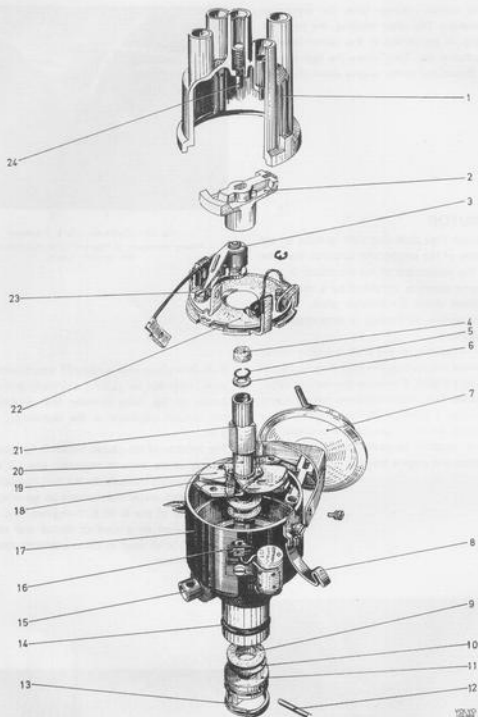
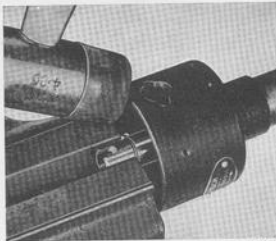
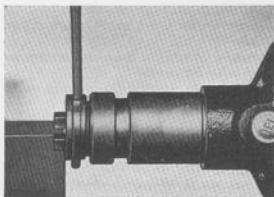

Fig. 3-99. Distributor, B 20 B
Fig. 3-103. Removing circlip
Fig. 3-104. Removing driving collar
3. Disconnect the springs for the centrifugal governor and mark up how the breaker cam is located in relation to the distributor shaft. Secure the breaker cam in a vice with soft jaws. Carefully knock on the distributor housing with a plastic mallet (Fig. 3-103) until the circlip (5, Fig. 3-99) has released and lift off the breaker cam.
5. Remove the resilient ring (13, Fig. 3-99) and mark up how the driving collar (11, Fig. 3-99) is located in relation to the distributor shaft. Tap out the pin (Fig. 3-104), lift off the driving collar and pull up the distributor shaft. Check that no washers have been lost.